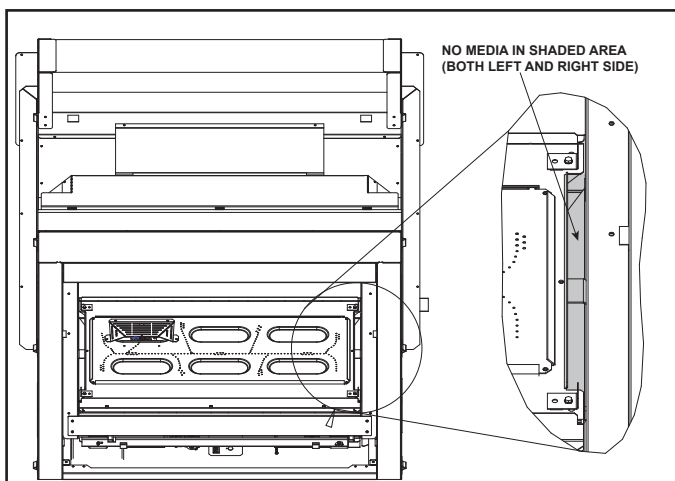

Figure 9.8 No Glass Rock Media in Gap
1. Place glass rock media evenly on base pan and over top of burner. Do not block the open area by the glass refractory. This area must remain open for proper air flow. See Figure 9.8.
NOTICE: Care should be taken to avoid placing glass rock media between the left and right of the media tray and the firebox. Blocking this gap may cause an undesirable flame appearance. See Figure 9.8.